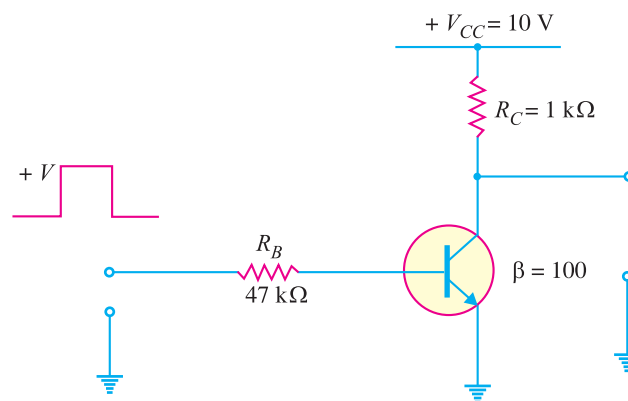

Fig. 18.6
**Example 18.1.** Determine the minimum high input voltage (+V) required to saturate the transistor switch shown in Fig. 18.6.